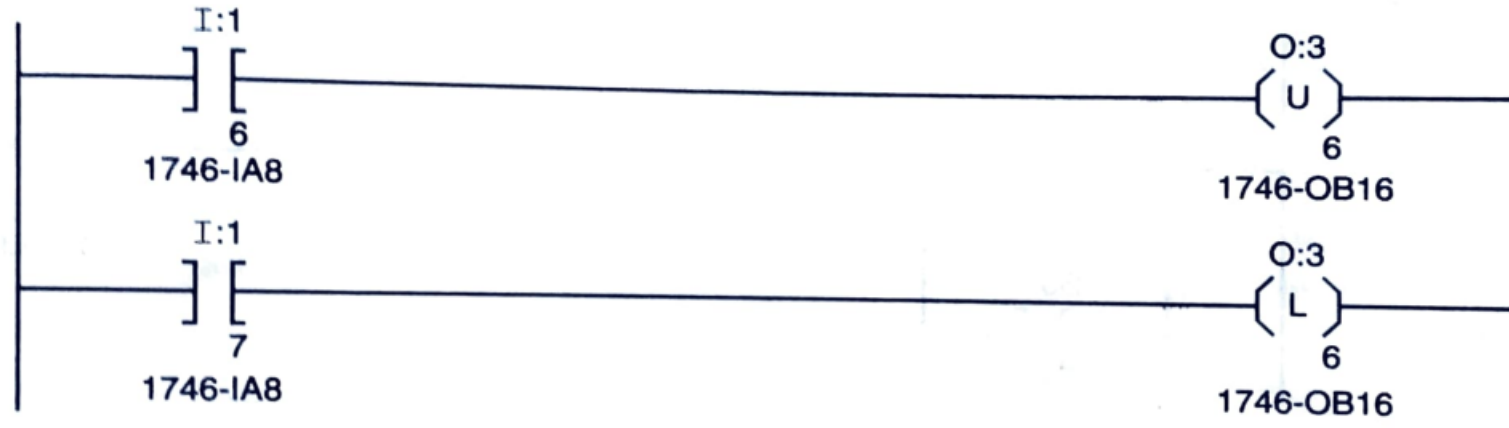

Figure 13-17 Latching instruction programmed after the unlatch instruction.
- In Figure 13-17, the unlatch instruction is programmed after the latch instruction.